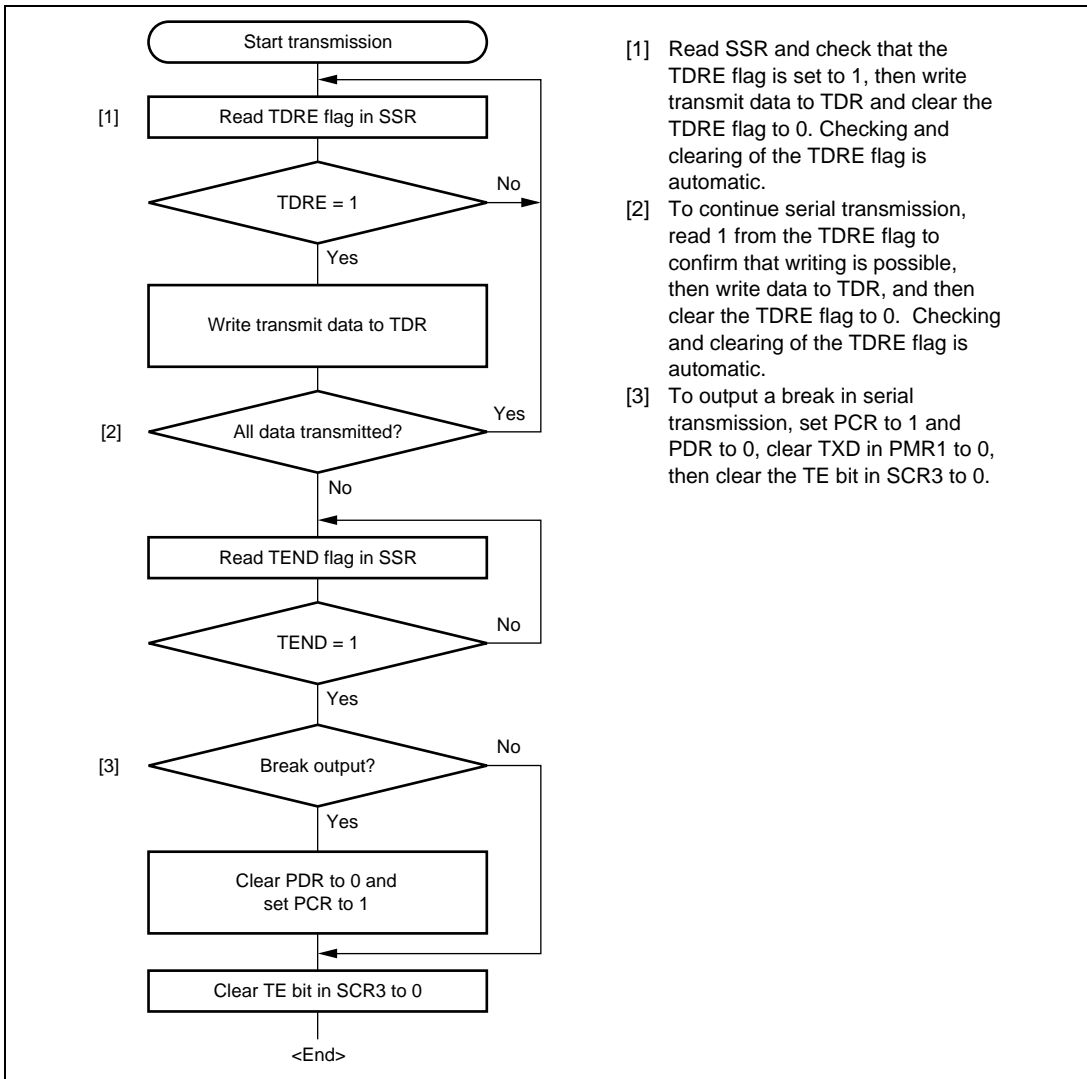

Figure 13-6 Sample Serial Transmission Flowchart
6. Figure 13-6 shows a sample flowchart for transmission in asynchronous mode.